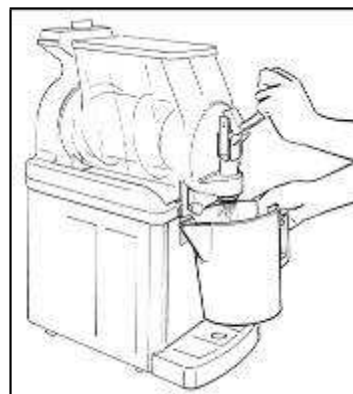

Рис. 26
- Make the unit working in the wash mode for some minutes and then empty the bowl and repeat the same operations until the coming out water is clear (Рис.26).